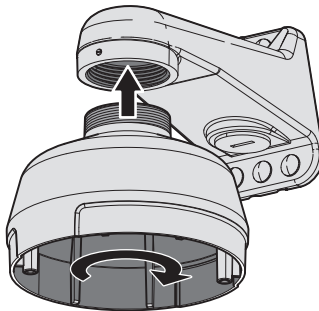

Figure 2. Installing the Pendant Mount Adapter
- c. Screw the pendant mount adapter onto the mount arm (refer to Figure 2 on page 4).